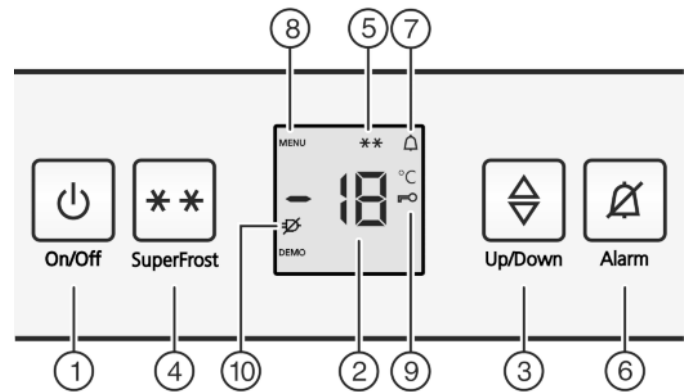

Fig. 2
- The SuperFrost symbol *Fig. 2 (5)* flashes together with the temperature display.*
- ▶ Press the On/Off button *Fig. 2 (1)*.
- ▶ Activate setting mode: press the SuperFrost button *Fig. 2 (4)* for approx. 5 seconds.
- ▷ The Menu symbol *Fig. 2 (8)* is shown on the display.
- ▶ Briefly confirm with the SuperFrost button, *Fig. 2 (4)*.
- ▷ The child lock symbol *Fig. 2 (9)*, lights up on the display.
- ▶ Briefly press the On/Off button *Fig. 2 (1)*.
- ▷ The child lock symbol *Fig. 2 (9)* goes out.
- ▶ Press alarm button *Fig. 2 (6)*.
The temperature display and the alarm symbol *Fig. 2 (7)* flash at the same time.
The audible alarm is automatically silenced, the alarm symbol *Fig. 2 (7)* goes out and the temperature display stops flashing when the temperature is sufficiently cold again.